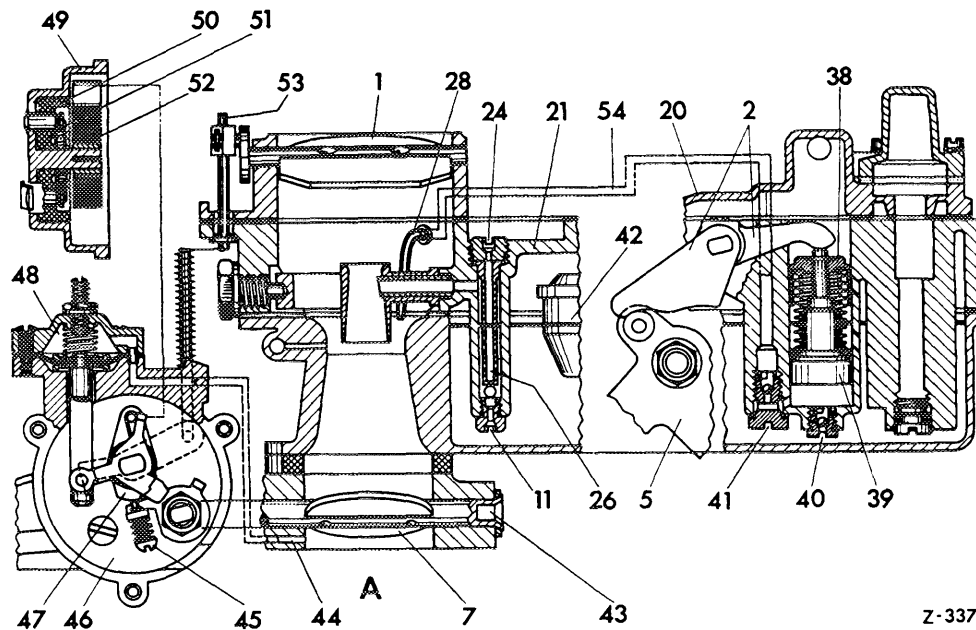

Fig. 07-26/5
The plunger-type accelerating pump is only effective in the first barrel. Upon actuation of the pump arm (2), the pump plunger (38) presses fuel into the emulsion chamber via canal (54) and through the calibrated injection tube (28) (see Fig. 07-26/5).